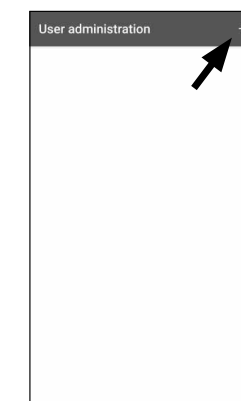

Fig. 30
- 4 A list of users that have already been created is displayed. Create a new user by tapping on the "+" in the top right-hand corner (Fig. 30).
- 5 Enter the first name and surname of the user you wish to register (I) (Fig. 30).